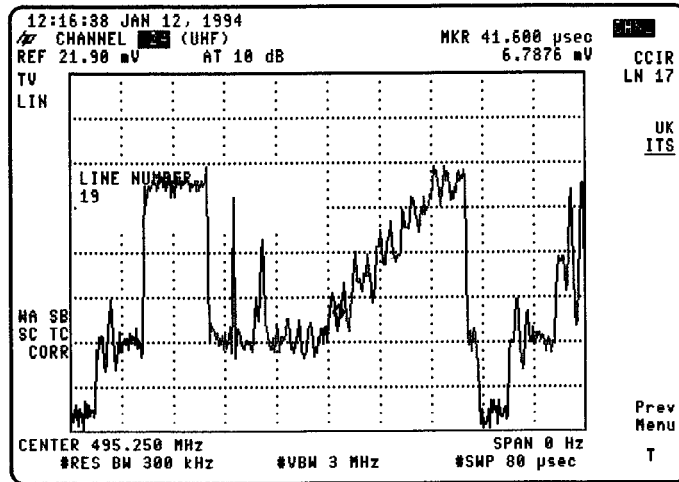

Figure 8-11. UK ITS Test Signal
1. An appropriate test signal must be present or the test will not return meaningful results. Refer to Figure 8-11.